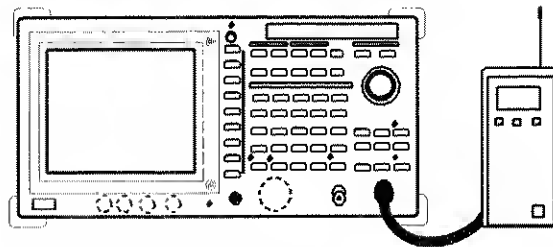

Figure 2-93 Setup for Measuring the Occupied Bandwidth
1. Connect the unit under test as shown in Figure 2-93.